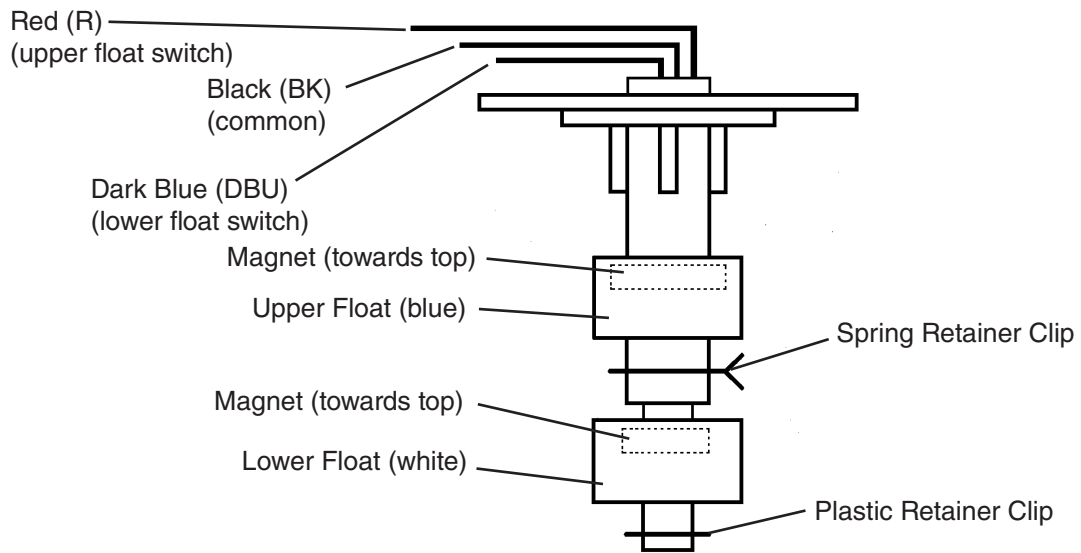

Fig. 7
- 4) Remove the FS moxex plug from the control box and check continuity across FS wires. Black (BK) to red (R) for the upper float and black (BK) to dark blue (DBU) for the lower float. See Fig. 7. With the water reservoir empty, the float switches are open. If open, continue to step 5. If closed, follow the steps in "II.E.2. Float Switch Cleaning." After cleaning the float switches, check them again. Replace if necessary.
- 8) Remove the FS moxex plug from the control box and check continuity across FS wires. Black (BK) to red (R) for the upper float and black (BK) to dark blue (DBU) for the lower float. They should be closed. If open, follow the steps in "II.E.2. Float Switch Cleaning." After cleaning the float switches, check them again. Replace if necessary.